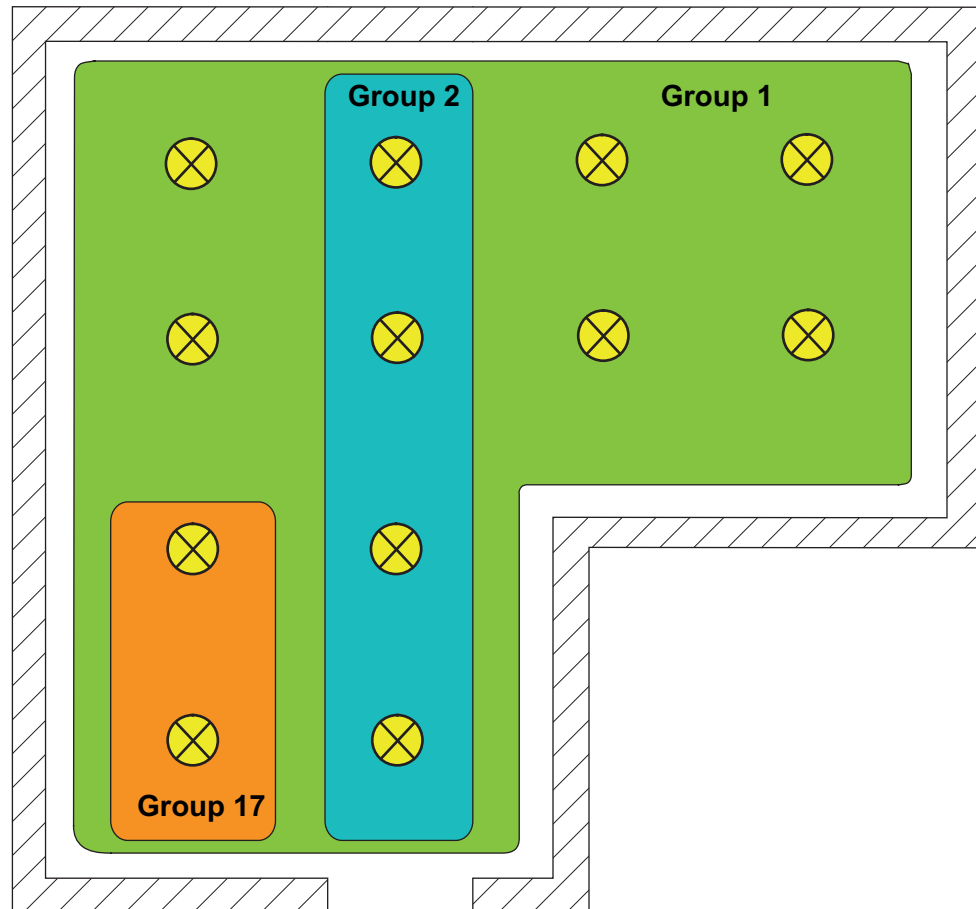

Figure 15: Example of multiple assignment of operating devices -
- i** DALI operating devices assigned to multiple groups always set themselves to the most recent status set using one of the assigned groups. In this case, feedback of the switching status, brightness value or colour temperature of a group cannot always be clear. The following examples explain this behaviour (Figure 15):